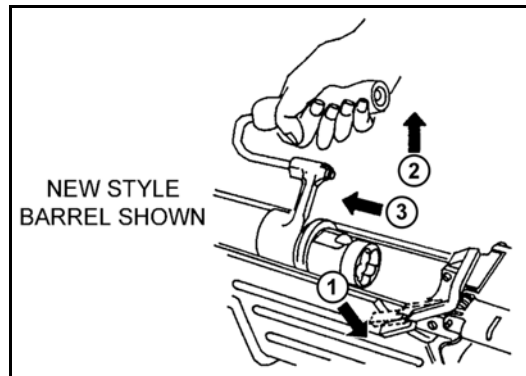

Figure 1-12. Removal of the barrel.
b. **Removing the Barrel Group.** The barrel group consists of barrel, heat shield, flash suppressor, front sight, gas regulator, and gas regulator collar. The following steps correspond to the callouts in Figure 1-12, page 1-14.